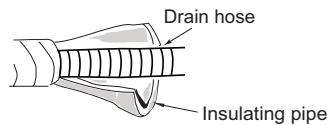

Fig.10
- (1) Add insulating pipe in the indoor drain hose in order to prevent condensation.
- (2) The plastic expansion particles are not provided.(As show in Fig.10)